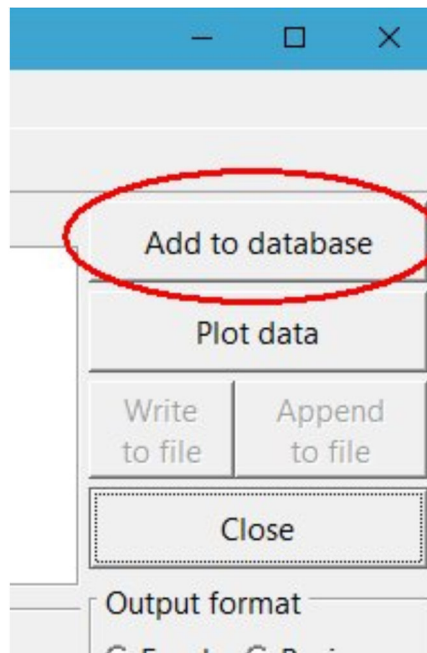

Figure 8.
- VII. Select the material you want to add to the database in the normal way. Click the “Add to database” button (Figure 8.)